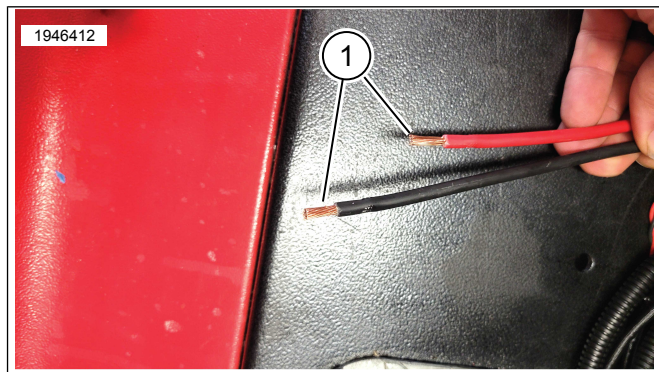

Figure 12. Wires Ready for Soldering
8. See Figure 12. Strip both wire back ½ inch (12.5 mm).